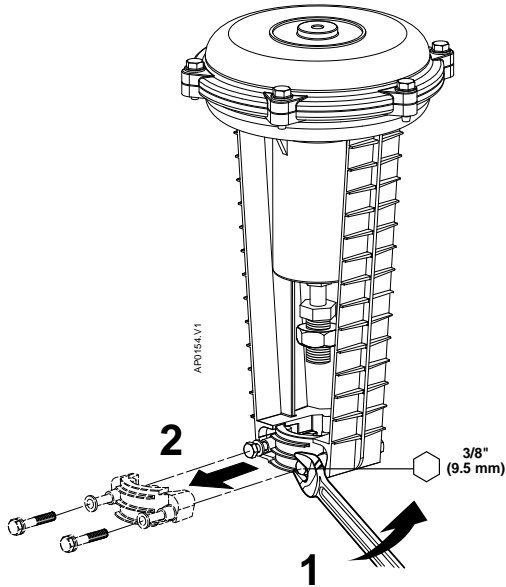

Figure 9. Removing the Actuator Retainer.
5. Use a 3/8-inch open-end wrench to loosen the actuator retainer screws and remove the actuator retainer. See *Figure 9*.
4. Use a 3/8-inch open-end wrench to loosen the actuator retainer screws and remove the actuator retainer. See *Figure 9*.